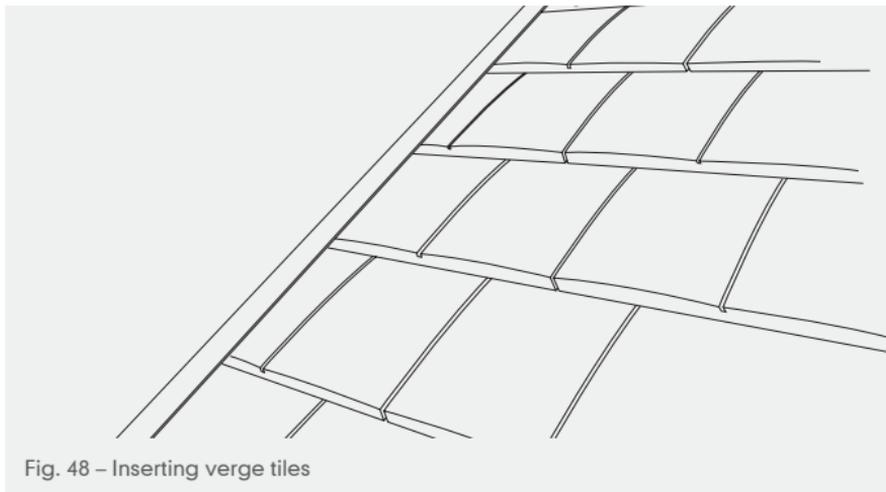

Fig. 48 – Inserting verge tiles
- 7 Lay tiles in the usual manner, ensuring the verge tiles are fully inserted into the verge extrusion and mechanically fixed (Fig. 48).